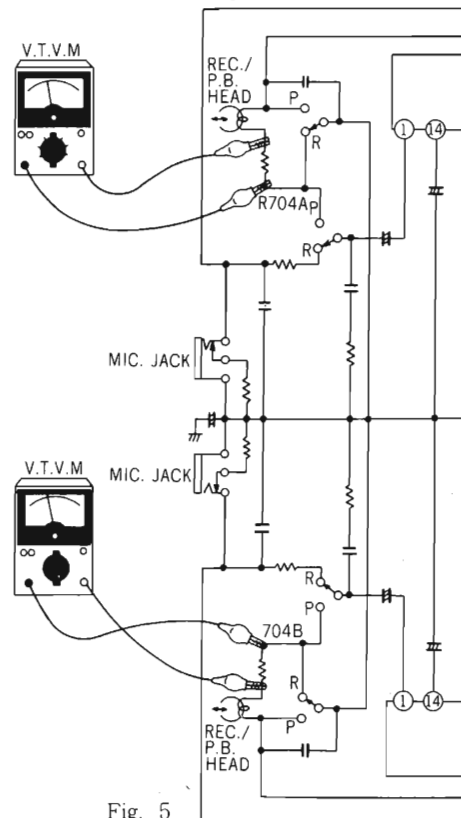

Fig. 5
- ① Set up the REC. mode.
- ② Observe the voltage drop at the both ends of resistor R704A (right channel), R704B (left channel) with a VTVM connected to the resistor R704A, R704B (See Fig. 5).